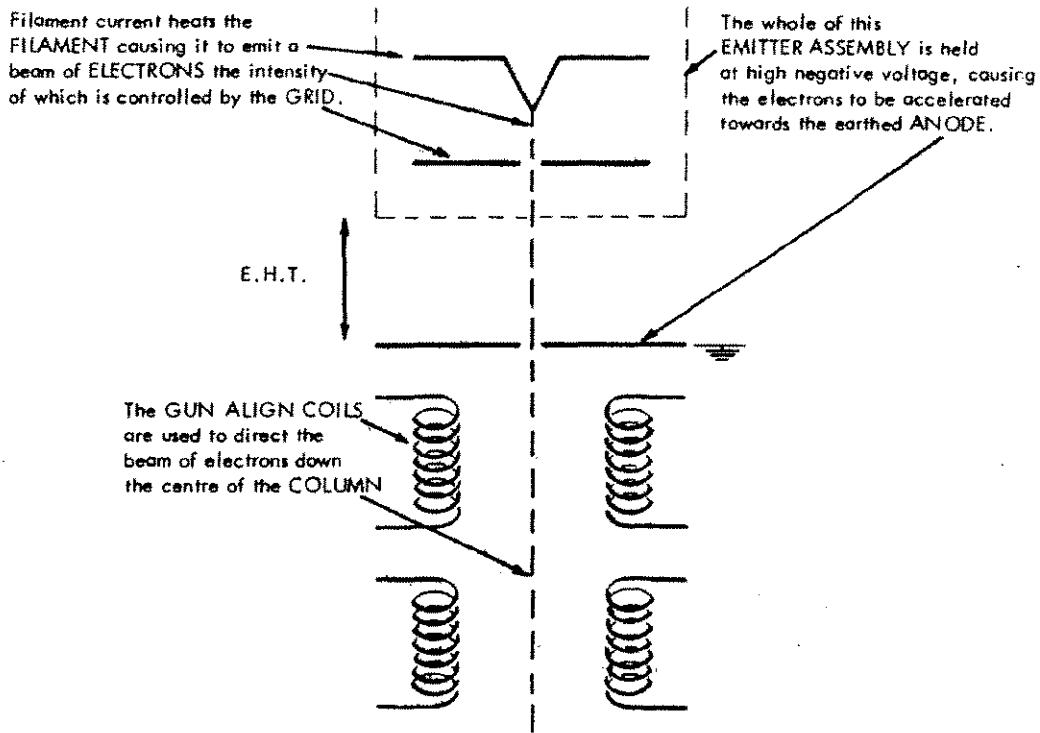

Figure 7.2
- Figure 7.2 The Electron Gun
7.2.1 The electron gun (see fig 7.2)